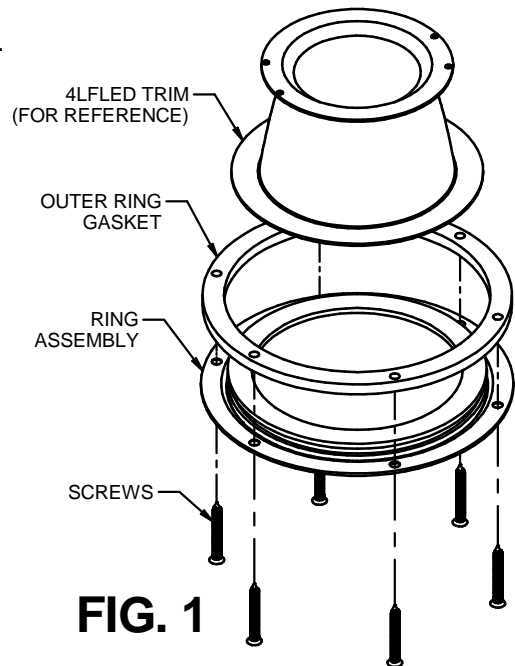

FIG. 1
1. Pull the trim down and leave hanging from the springs to locate the trim brackets (Fig. 1). Make small reference marks to indicate the location of the trim brackets.